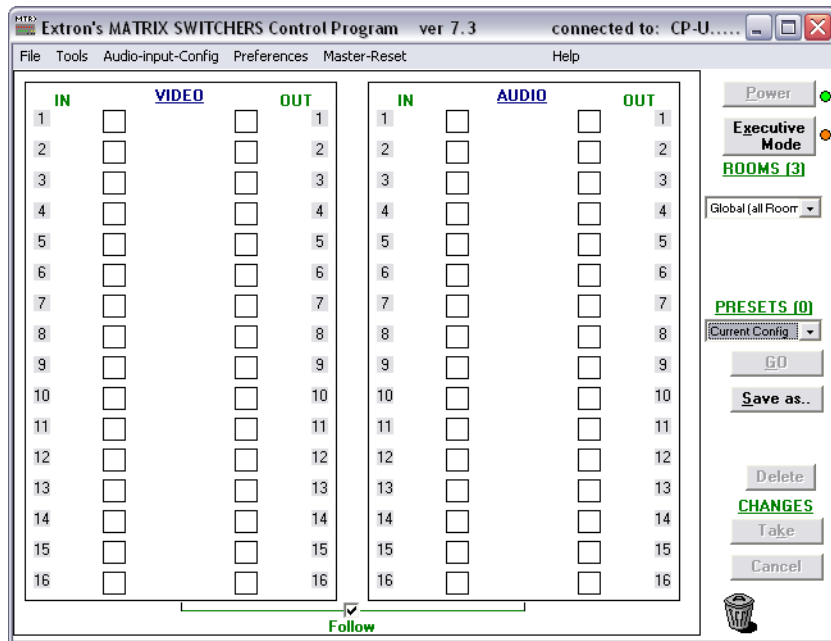
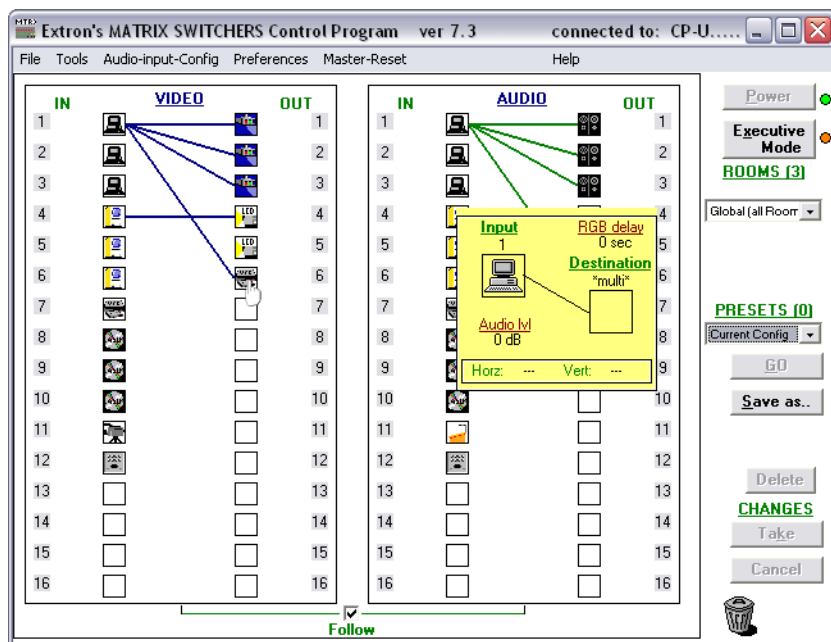

Figure 64. Extron Matrix Switchers Control Program Window (no Icons or Ties)
Figure 65. Sample Program Window (Icons Assigned and Ties Created)
Click **OK** and proceed to step 4. The Extron Matrix Switchers Control Program window (see figure 64 and figure 65 on the next page) appears, displaying the current configuration of the attached matrix. Proceed to step 4.
- c. Click **Connect**. The Extron Matrix Switchers Control Program window (see figure 64 and figure 65 on the next page) appears, displaying the current configuration of the attached matrix. Proceed to step 4.
- For quick display of information on a specific input or output device, position the cursor over that device in the control program window. The program opens a window that details the connection to that device (see the inset box in figure 65).